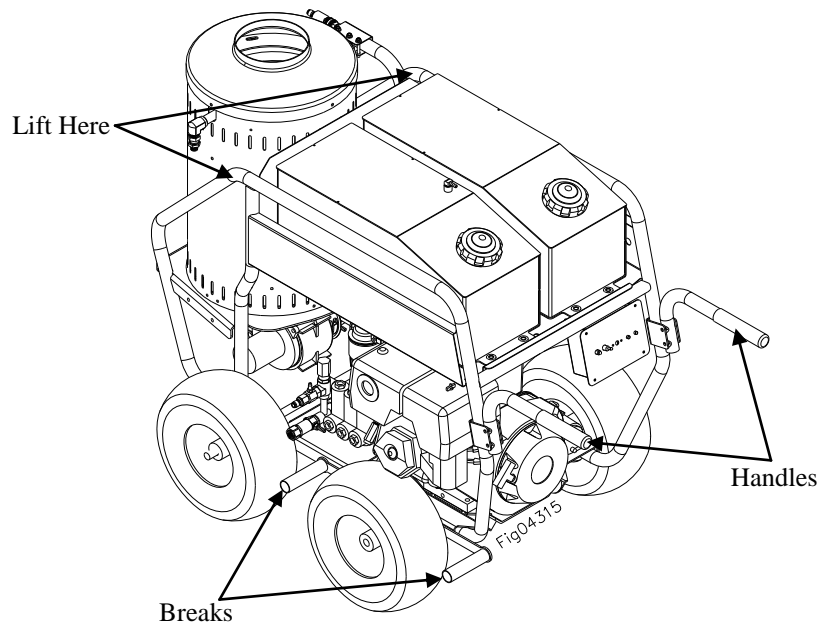

Figure 7
3. Engage brakes to prevent inadvertent movement. Pull brake arms out, rotate them down, and use them as chocks. (See Figure 7)
To reduce risk of injury, use a hoist or shallow ramp to raise or lower the pressure washer. When using a hoist, lift from the lifting points. (See Figure 7).